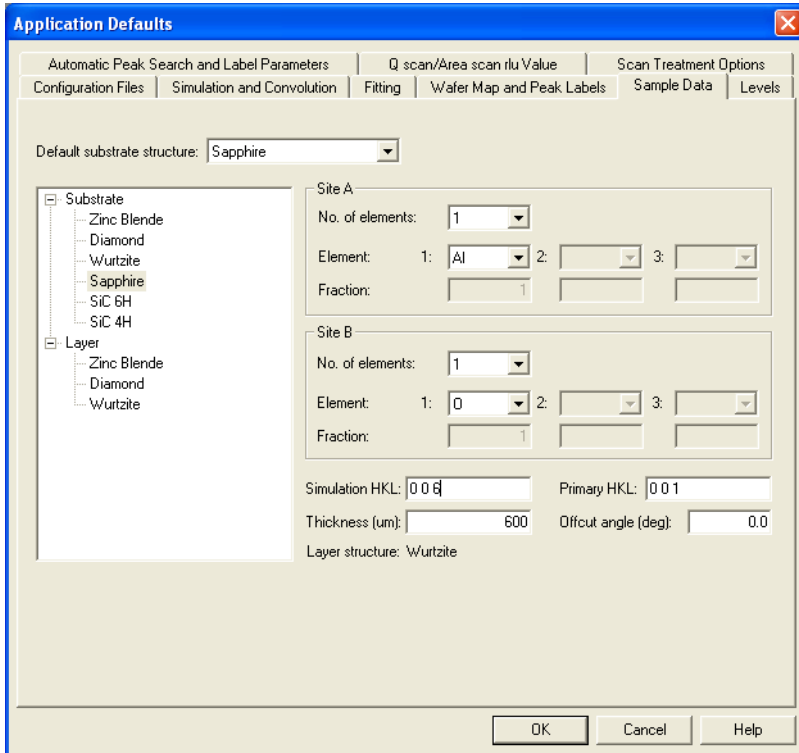

Figure 5-11: The Default Sample Data Tab Edited for a Sapphire Substrate
- Check that the substrate details are as shown in Figure 5-11.